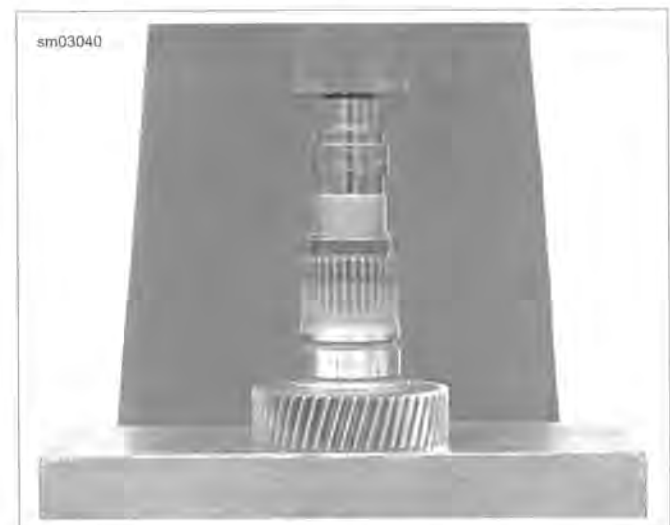

Figure 6-42. Installing Clutch Side Needle Bearing in Main Drive Gear
3. See Figure 6-42. Install clutch side needle bearing using an arbor press and the 0.400 in. step end of tool as shown. Press until tool contacts gear.